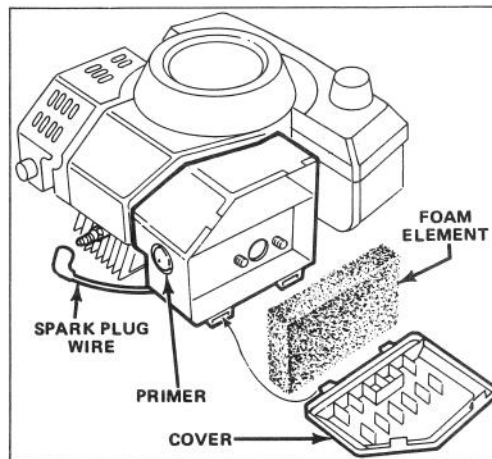

Figure 3
3. Cover hole in center of Primer with thumb and push once (Fig. 3).
1. Stop engine. Pull wire off spark plug (Fig. 3).
2. Lift tabs at top of air cleaner cover and pivot cover down. Clean cover thoroughly (Fig. 3).
3. If outside of foam element is dirty, remove it from air cleaner body (Fig. 3). Clean thoroughly.